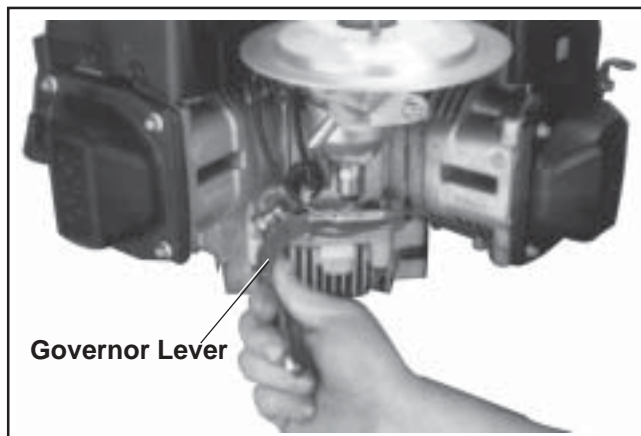

Figure 9-20. Removing Governor Lever.
1. Loosen the hex flange nut and remove the governor lever from the cross shaft. See Figure 9-20. Leave the lever attached to the throttle linkage.